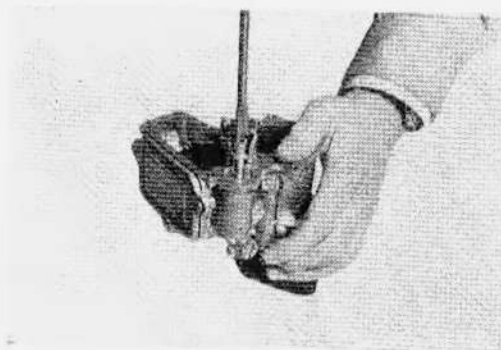

Figure 142
(17) Screw on pump rod locknut on to accelerating pump (Fig. 142).